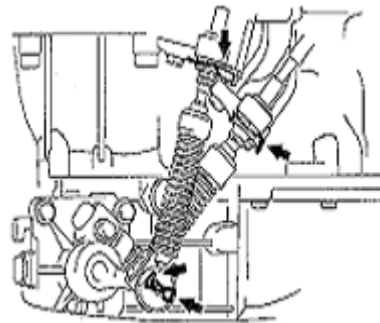

Figure 141
4. Detach transmission shift cable assembly. See (Figure 141)
33. Connect transmission shift cable assembly. See (Figure 141)